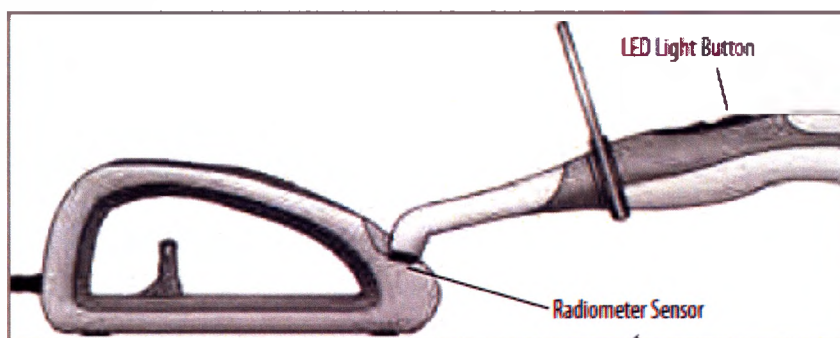

Figure 6 – The LED Light Attachment aligned with the Radiometer Sensor
3. Carefully hold the unit so that the lens of the LED Light Attachment is flush with the radiometer sensor (Figure 6) and centered within the white circle provided.